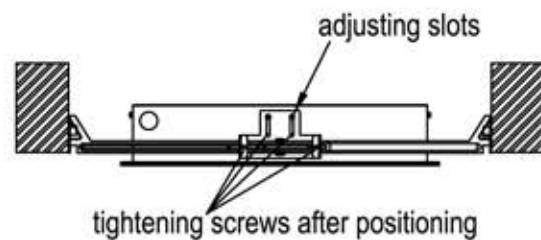

Fig. 3
3. Adjust height of metal housing vertically using Adjusting slots and then tightening all screws on adjusting slots and bar hanger bracket to secure adjusting bracket and bar hangers. (Fig. 3)